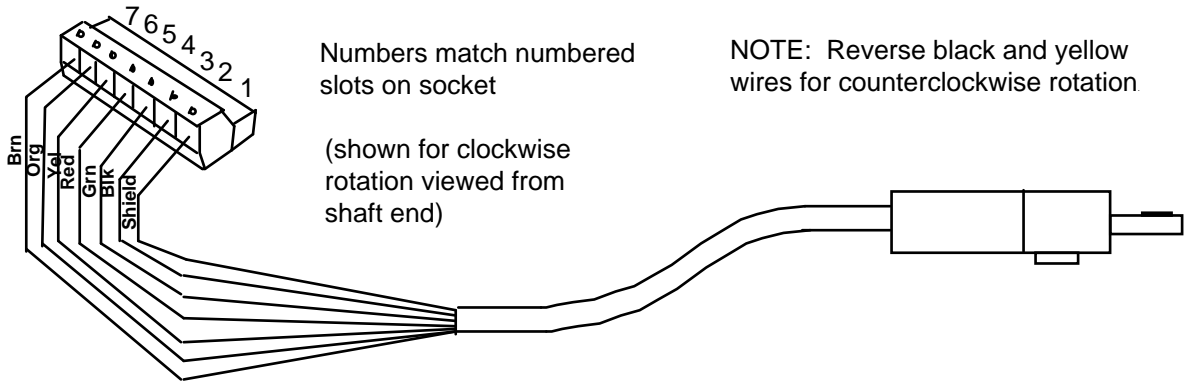
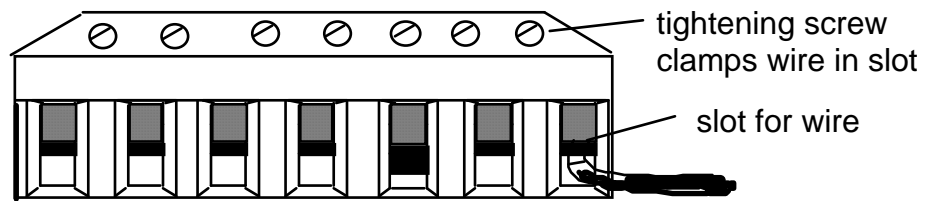

Figure 2-5. Wiring for resolver cable (see table below)
Figure 2-6. Attaching wires to connector
5. Attach the wires to the L-shaped connector as shown in Figure 2-5. Make sure you connect the black and yellow wires correctly based on the way your resolver will rotate—clockwise or counterclockwise. To connect a wire, find the correct slot and loosen the screw over that slot by turning it counterclockwise (see Figure 2-6). Strip the correct wire for this slot 1/4" (6.4 mm) from end. Insert bare wire into slot 90% of the way. Tighten the screw. Metal tooth inside slot will clamp down on the bare wire for a tight connection. Make sure the metal tooth is clamped down on the bare part of the wire, not on the insulation.
4. Attach the wires to the connector as shown in Figure 2-5. You will be wiring in parallel (#4 red to red, #5 yellow to yellow, etc.), so that when you are finished, you should have two wires of the same color connected to each terminal on TB105. To connect a wire, refer to Step 5 in "To wire the resolver". Also see Figure 2-6.